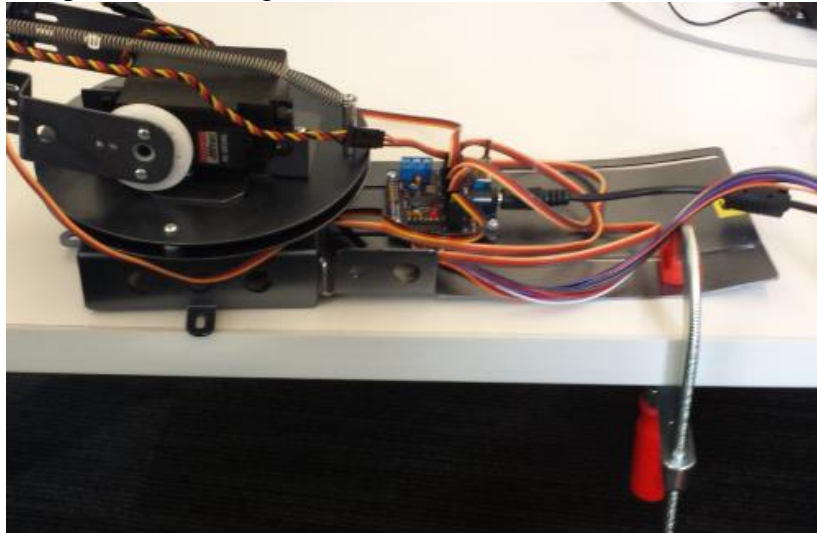

Figure 4 Clamping Robotic Arm to Table
10. Before moving on, make sure your robotic arm is moved as far away from the ZedBoard so that it will not crash into the board. Also, make sure that the arm will move without unplugging from the ZedBoard. Also, secure your robots base using the clamp (provided in the cabinet) to clamp it to the table as shown in Figure 4. Have one of the lab supervisors check your setup before moving on.